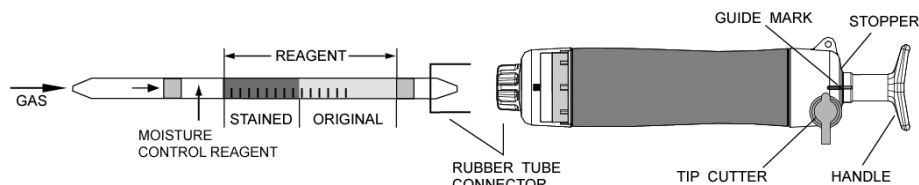

Fig.1
- ② Insert the detector tube into aspirating pump securely as shown in Fig.1. (Arrow mark shall point to the pump.)
- ③ Align the guide marks on the shaft and stopper of the aspirating pump.
- ④ Pull the pump handle at full stroke locked position and wait for 1 minute or until the completion of sampling is confirmed with the flow indicator of the pump (See descriptions about the flow indicator in the instruction manual of the pump).
- ⑤ On completion of sampling, read the scale at the maximum point of the stained layer.
- ⑥ If the discolouration is over the scale, change the tube and carry out the following 1/2 pump strokes procedure.